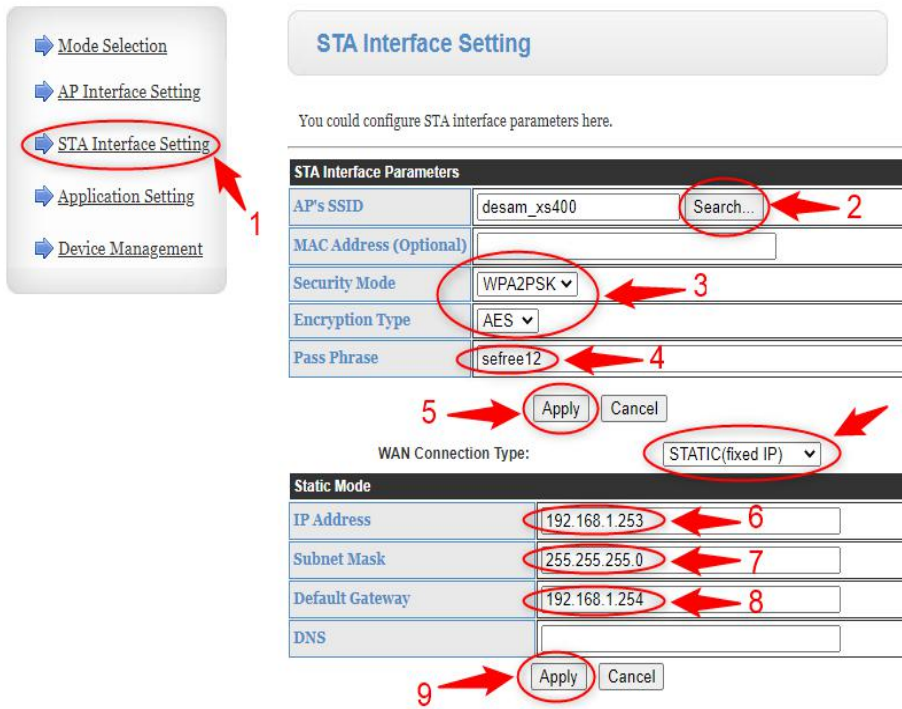

Figure 36
c. Wireless terminal settings (as shown in Figure 36)